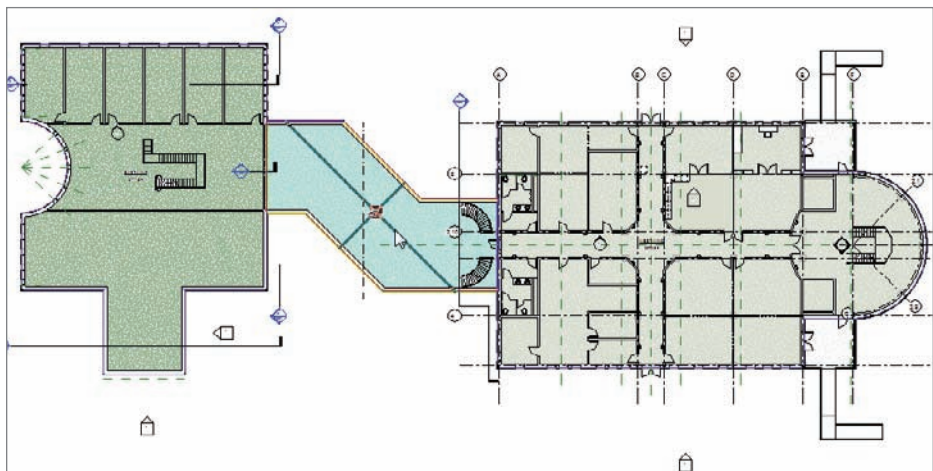

FIGURE 15.30 The plan is divided into three areas.
10. Place an area in the west wing, then in the corridor, and then in the east wing, as shown in Figure 15.30.
18. Place the legend in the upper-right corner of the view, as shown in Figure 15.30.
25. Click OK to return to the model (see Figure 15.30).